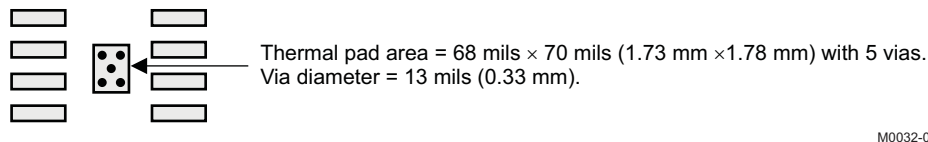

Figure 38. Thermal Pad PCB Etch and Via Pattern
1. Prepare the PCB with a top side etch pattern as shown in Figure 38. There should be etch for the leads as well as etch for the thermal pad.